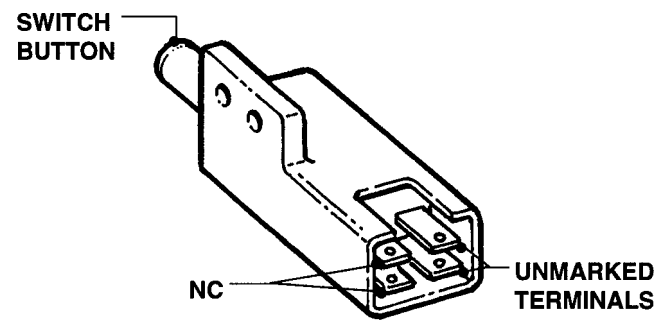

FIGURE 3.11
1. Disconnect the Wires from the four Switch Terminals. See Figure 3.11.